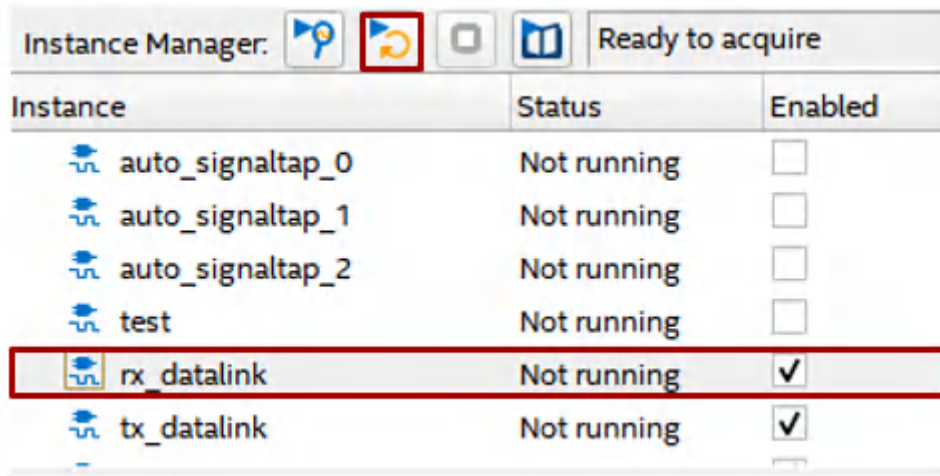

Figure 2-15. rx_datalink in SignalTap
5. Ensure “rx_datalink” is the selected tab and row; click the boxed icon as shown in Figure 2-15 to begin running data acquisition.